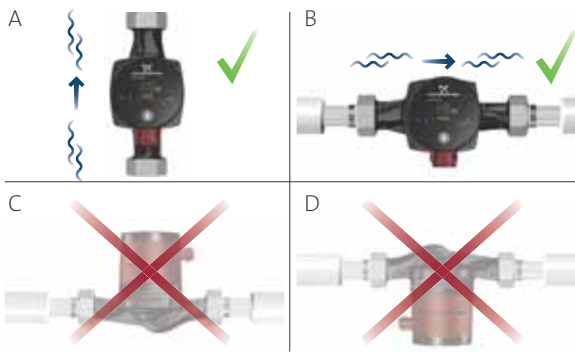

Fig. 2 Control box positions
- Pump installed correctly in a vertical pipe. See fig. 2 (A).
- Pump installed correctly in a horizontal pipe. See fig. 2 (B).
- Do not install the pump with a vertical motor shaft. See fig. 2 (C and D).